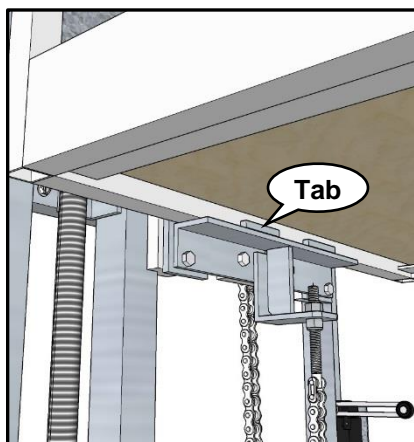

Figure 22
- 3 When positioning car on trolley, make sure the tabs are hooked under car as shown in Figure 22.